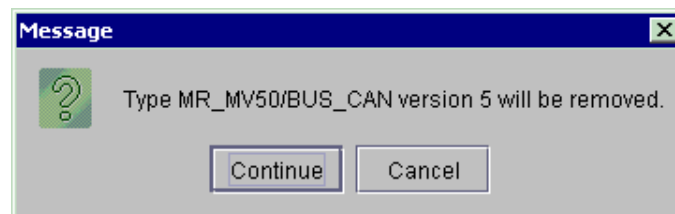

Figure 137 : Delete type message
- ◆ Select the command **Delete model**; a *dialog box is open* (Figure 137):